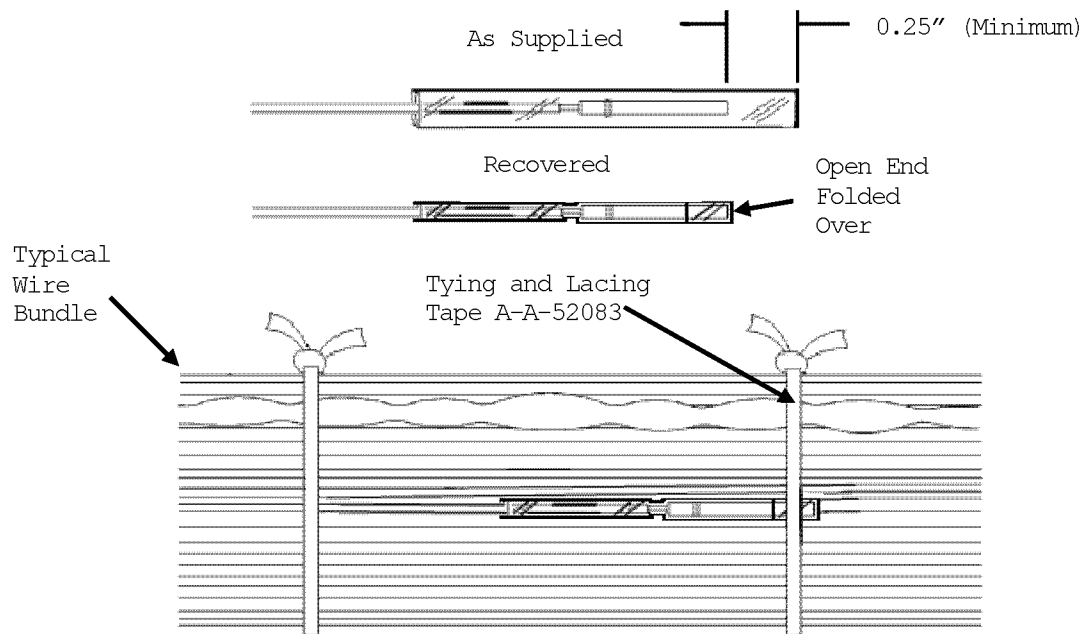

Figure 11. Capped and Stowed Contact
- b. Apply SAE AMS-DTL-23053 heat shrinkable tubing to snugly fit over individual contacts. Trim to minimum of 0.25" on either side of contact and shrink/recover using the approved heat gun (WP 012 00). (See Figure 11).